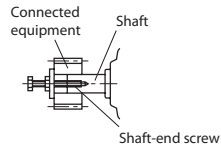

Figure 5-1
- Shrinkage or shaft-end screw fit is recommended (see Figure 5-1).